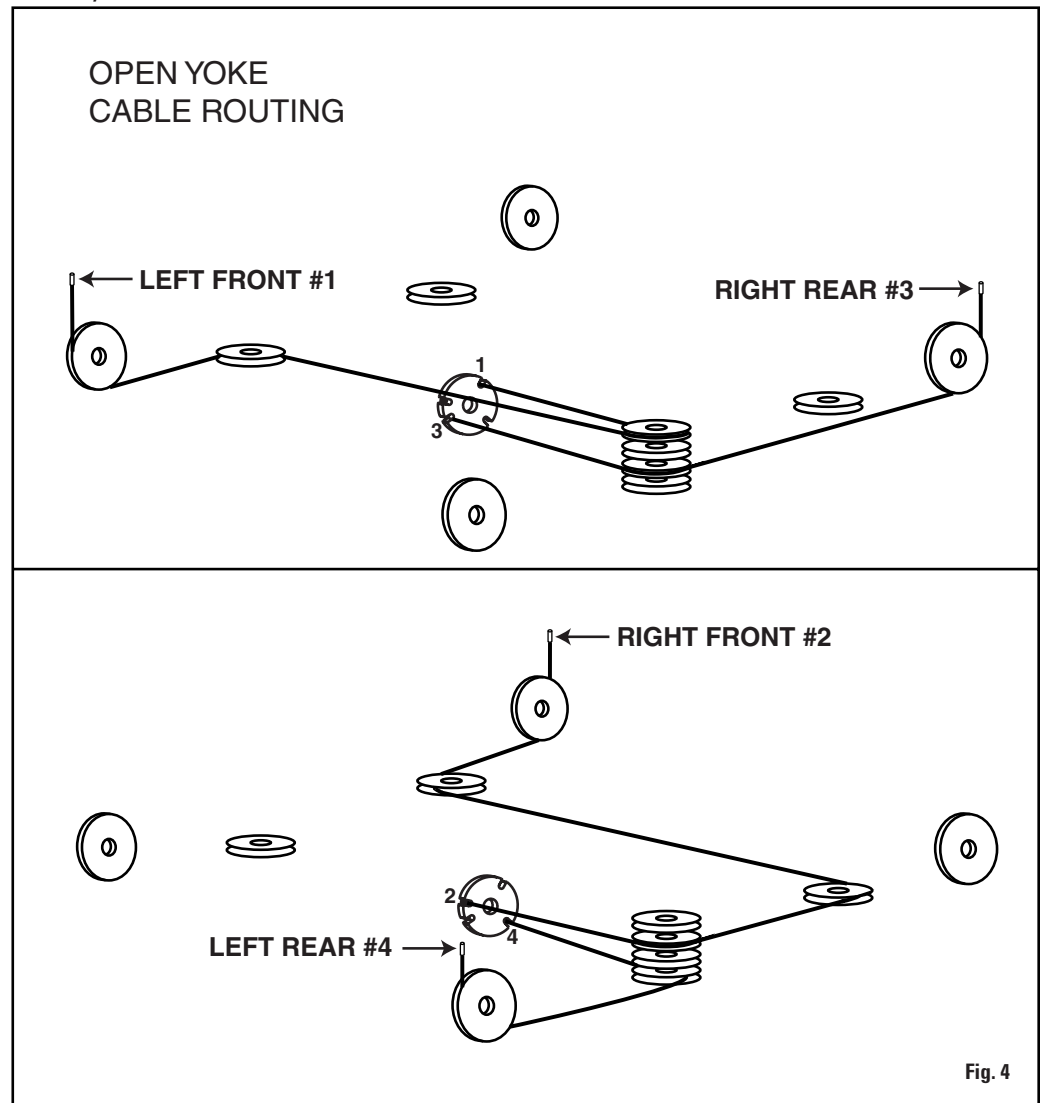

Fig. 4
F. **IMPORTANT** Be sure cable is isolated in the sheave groove. Attach each cable to column top plate with washer, nut, and jam nut, Fig. 9. Install rubber sheave guard on each yoke end. Roping diagram shows a view of completed roping, Fig. 4.